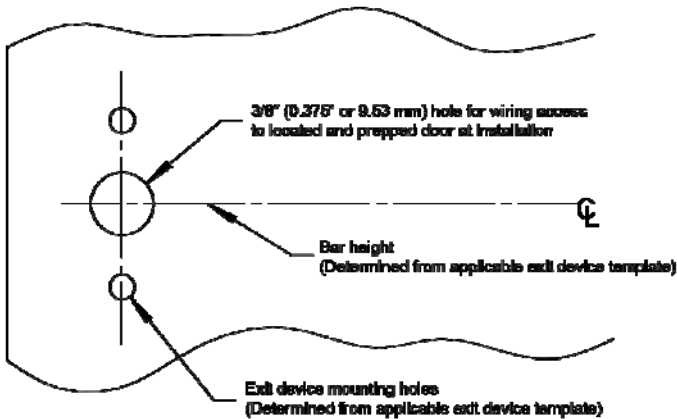

Figure 3. Door Preparation
2. DRILL a 3/8" (0.375" or 9.53 mm) on the door for wiring access at the time of installation (see Figure 3, "Door Preparation").